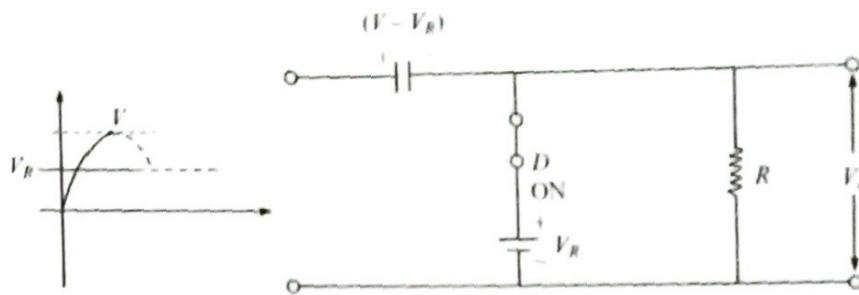

Figure 2.38
**Solution:** Assume that the diode is ideal. During the first quarter of the input cycle, when  $V_i > V_R$ , the diode is forward biased and  $C$  gets charged to  $(V - V_R)$  volts as shown in Fig. 2.38.